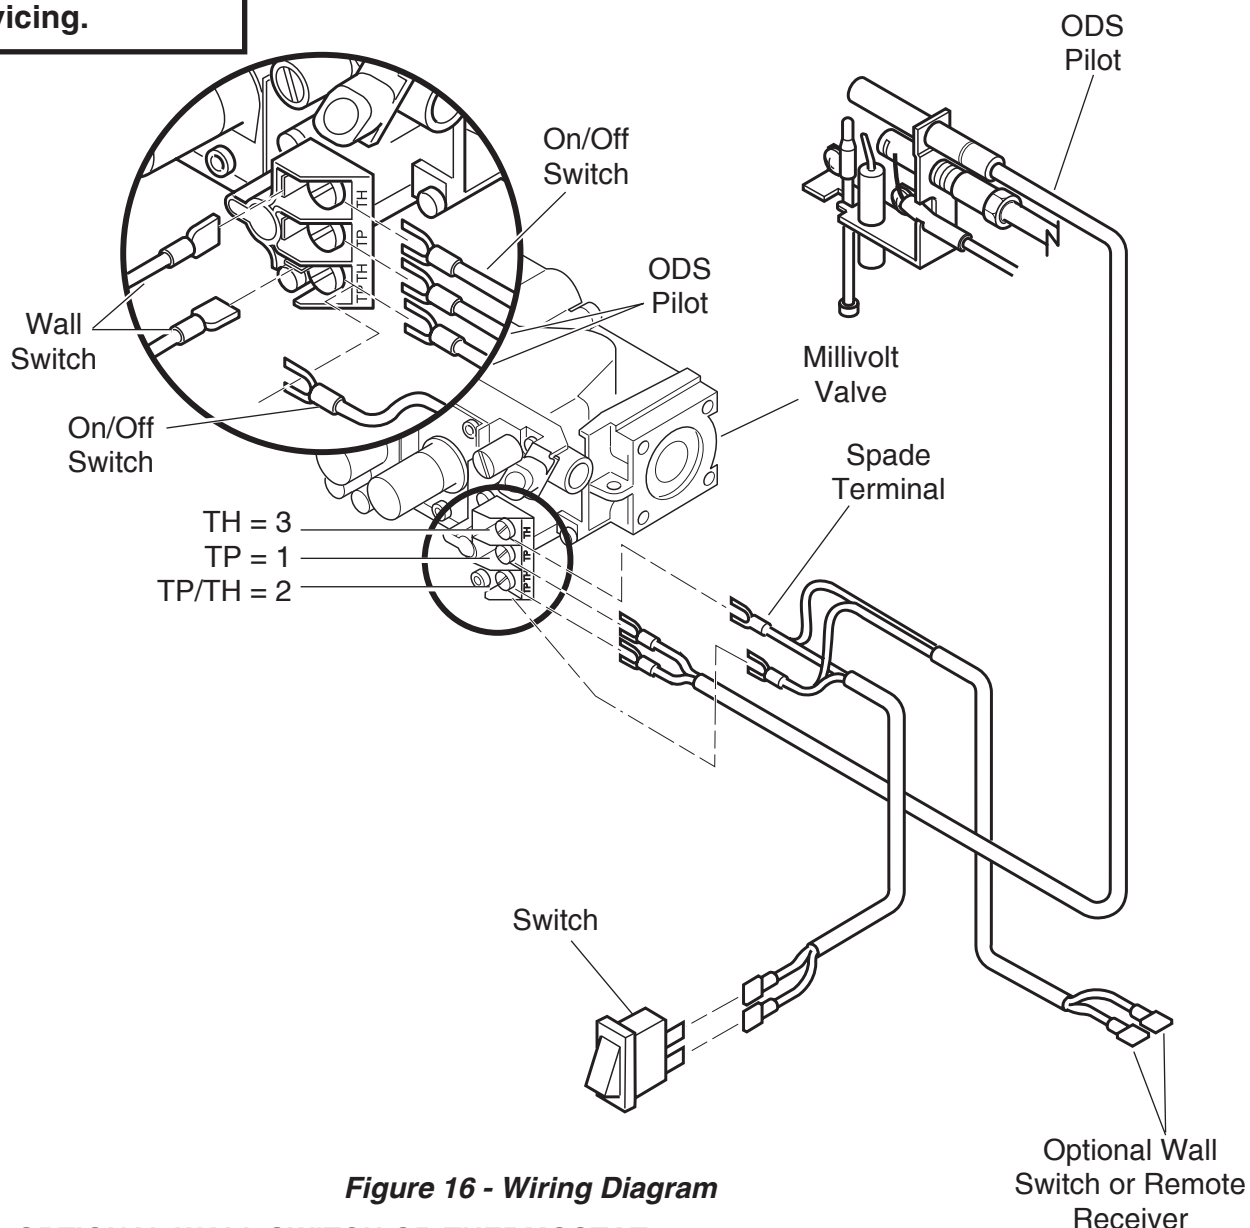

Figure 16 - Wiring Diagram
1. Connect the wires to the two .25" male connectors located on the left side of the valve when facing the unit (See Figure 16, page 19). Do not let wire touch grate or burner.